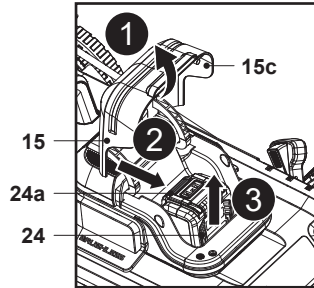

Fig. 9
1. Lift the magnetic lid (15c) and open the battery compartment cover (15) (Fig.9, step 1).
2. Press down the release button (24a) to unlock the latch of battery pack (24) (Fig. 9, step 2).
3. Slide out the battery pack (24) from the battery compartment (Fig. 9, step 3).
4. Carefully close the battery compartment cover (15).